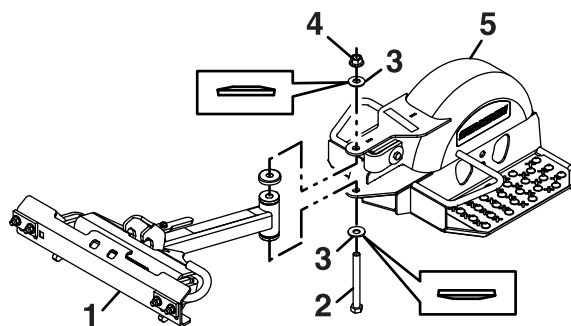

Figure 4
2. Align the sulky frame assembly with the drawbar assembly. Reinstall the 1/2-13 x 5 inch hex screw, spring disc washers, and 1/2 inch hex flange nyloc nut, removed in step 1, as shown in Figure 4. Torque nut to 90 ft-lb (122 N-m).